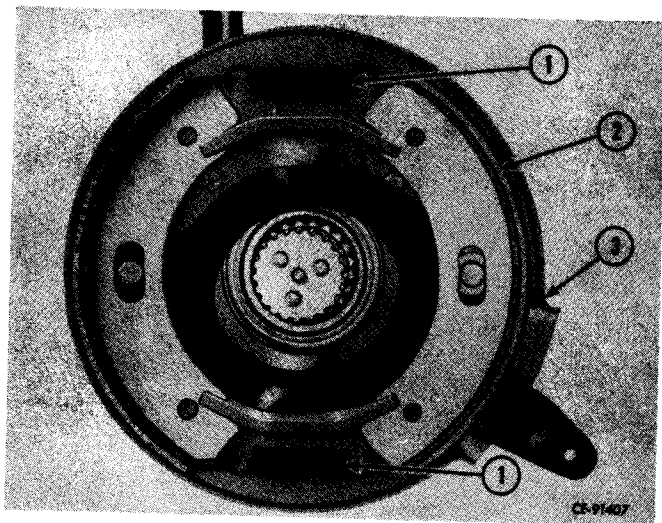

Figure 5-17
Using a brake spring pliers, remove brake springs (1, Fig. 5-17) from brake shoes (2) as shown.
Install brake shoes (2, Fig. 5-17) on backing plate (3). Install springs (1) with a brake spring pliers as shown. Be sure springs are installed in rear holes.